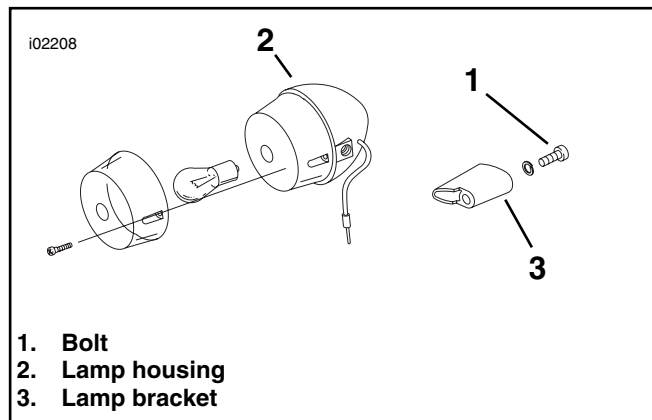

Figure 5. Rear Turn Signal Mounting Hardware
5. See Figure 5. Remove the rear turn signals as follows: